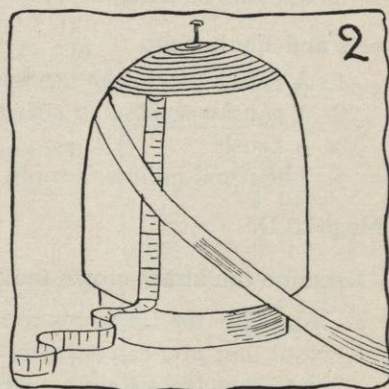
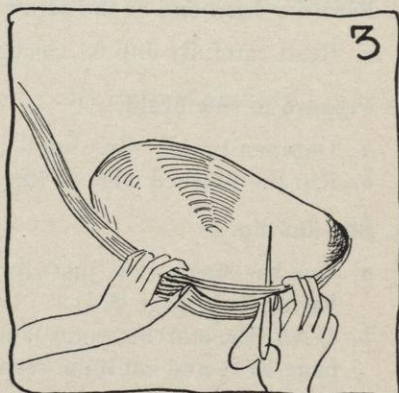

FIG. 2.
FIG. 3.
- b. Measure to see if the outside edge is an even distance from the bottom of the block (see Figure 2). If it is uneven try to stretch it so that it will be an even distance from the bottom. If you cannot stretch it, follow Sections c, d, e, and f.
- c. Read the precautions on pressing straw in Job 12, Sections 1 b (1) through (6) (page 53).
- i. When the crown begins to slope, remove it from the block and begin to cap the straw evenly, by pulling the row that you are sewing just a little tighter than the row before it (see Figure 3). Use tiny, but firm, back stitches.
- c. Paint crown with shellac or sizing by going around and around with even strokes of the brush (see Figure 2 of Job 12, page 54).